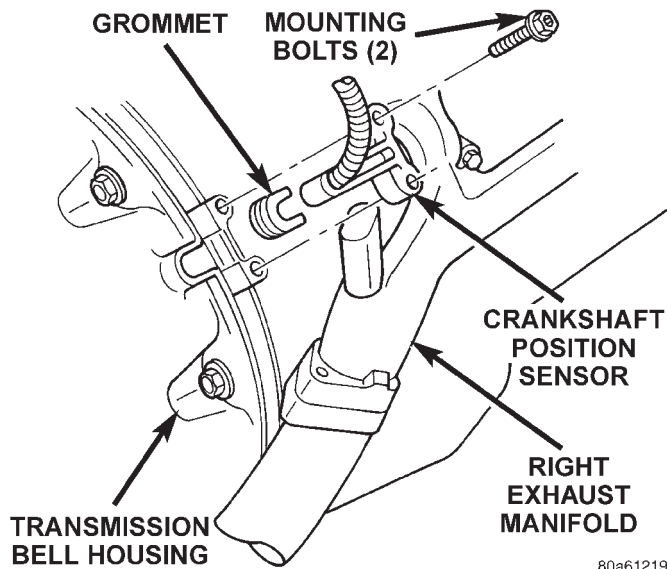

Fig. 30 Crankshaft Position Sensor—5.2L/5.9L Engines
The sensor is bolted to the top of the cylinder block near the rear of right cylinder head (Fig. 30).
- (1) Disconnect crankshaft position sensor pigtail harness (3-way connector) from main wiring harness.
- (2) Remove two sensor (recessed hex head) mounting bolts (Fig. 30).
- (3) Remove sensor from engine.